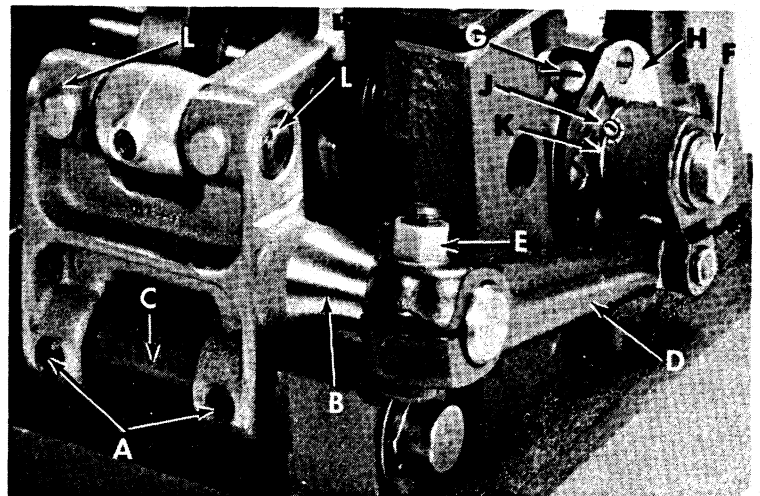

Fig. 11
Right to left adjustment can be made by loosening screws (A, Fig. 11) and slightly move feed rocker (B) on feed rocker shaft (C) as required, then retighten screws. Check to ensure that feed rocker arm (D) does not bind after adjustment.
Forward or rearward centering of feed dog can be accomplished by loosening nut (E, Fig. 11), move feed rocker (B) as required and retighten nut.
Set the stitch to required length. This is accomplished by loosening locknut (F, Fig. 11) 1/2 turn (it has a left hand thread) on the end of the stitch regulating stud and turning stitch adjusting screw (G) located under the left end of the cloth plate, in the head of main shaft (H), which is marked with "L" and "S". Turning the screw clockwise shortens the stitch (moves stitch regulating stud toward the "S") and turning it in a counterclockwise direction lengthens the stitch (moves stitch regulating stud toward the "L"). Retighten locknut securely. To prevent destructive damage to the feed drive bearing, key screw (J) must engage the "U" shaped key slot in ferrule (K).
Machines having needle bearings in the feed rocker at locations (L, Fig. 11) may require repacking after years of service. Bearings should be thoroughly cleaned and repacked with Union Special Corporation grease No. 28604 P.